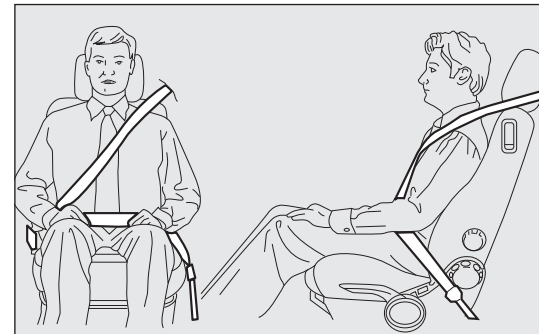

fig. 133
*The belt must not be twisted. The upper part must cross the shoulder and the chest diagonally. The lower part must adhere to the hips fig. 133, not to the abdomen. Do not use devices (clips, clamps, etc.) that prevent the belts from being snug to the passenger's body.*